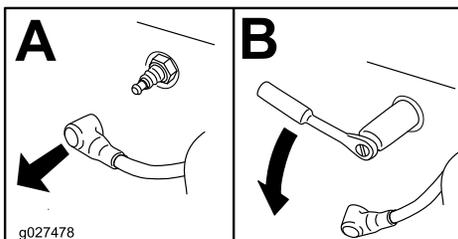

Figure 55
4. Remove the spark plug (Figure 55).